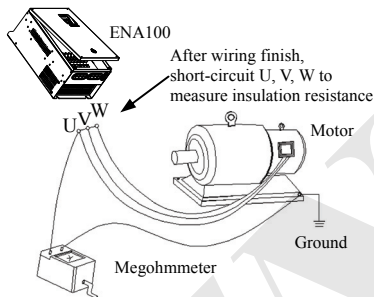

Fig.1-1 Schematic diagram of motor insulation inspection
(11) Motor should do insulation check before first usage or reusage after lay aside for long time. Checking method show as Fig.1-1 below with 500V voltage type megohm meter, insulation resistance should not smaller than 5 MΩ, otherwise inverter maybe damaged.